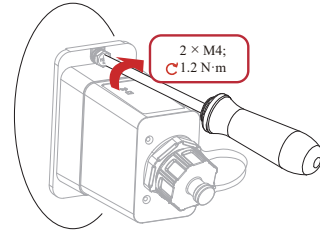

Figure 10c: Secure the Wi-Fi/Ethernet dongle
- Secure the Wi-Fi/Ethernet dongle. (Figure 10c)